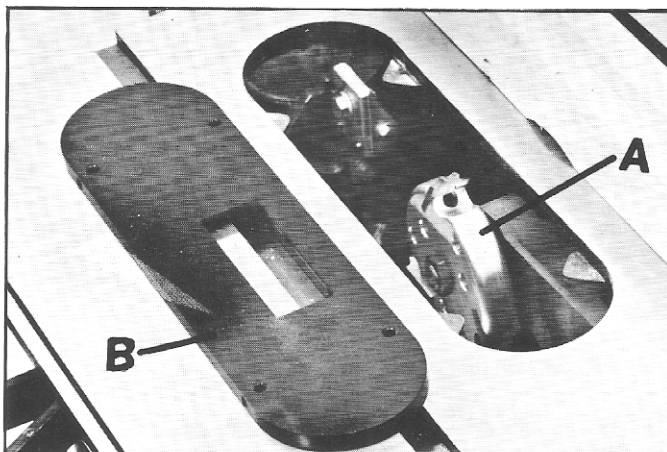

Fig. 39
The moulding cutterhead (A) Fig. 39, is assembled to the saw arbor in the same manner as the saw blade. The guard, splitter and anti-kickback finger assembly can not be used when moulding and must be removed from the saw as shown. Also, the accessory moulding cutterhead table insert (B) Fig. 39, must be used in place of the standard table insert.